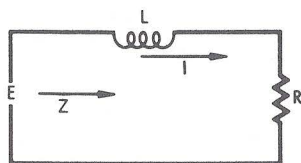

Figure 9a
a. Solve for the current and voltage drops in the circuit shown in Fig. 9a.